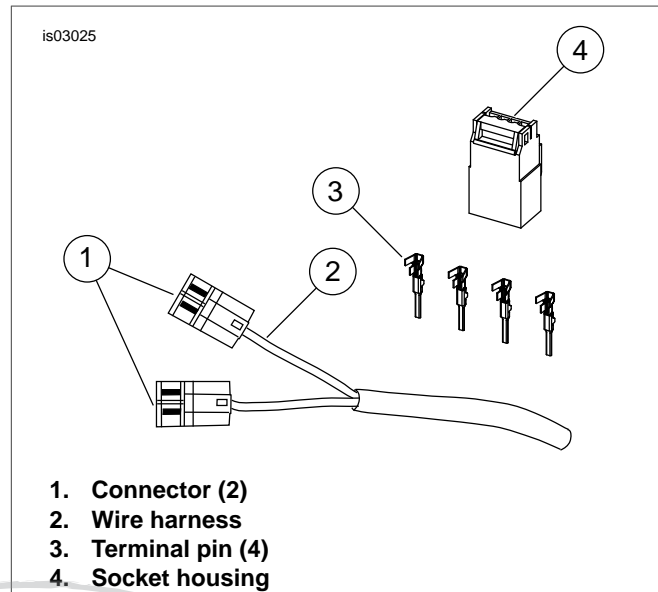
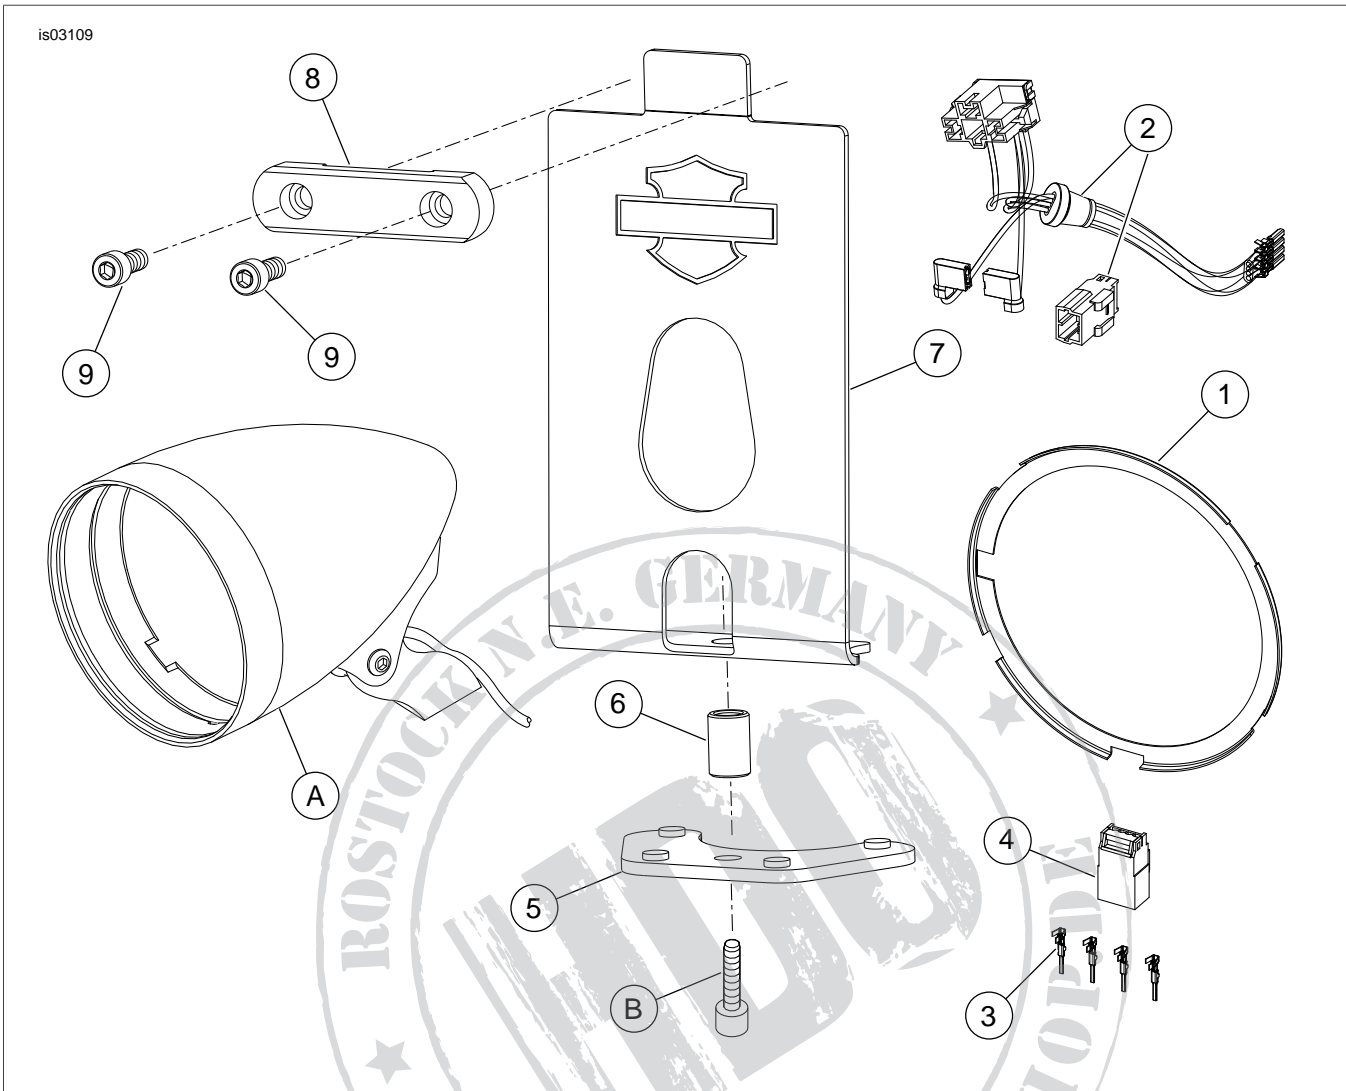

Figure 3. 2004-Earlier VRSCA and VRSCB Headlamp Wire Harness
Figure 6. Service Parts: VRSC Bracket for Billet Headlamp Shell
See Figure 6 and Table 1.
Adapter ring from kit (Figure 6, Item 1) will be used to install billet headlamp assembly on Instruction Sheet-J03018.
2. See Figure 3. Cut the two connectors (1) from existing headlamp wire harness (2). Be sure to cut the wires as close to the back of the connector as possible.
3. See Figure 6. Route new wire harness (2) through the hole in bottom of the billet headlamp shell (A).
5. See Figure 3 and Figure 6. Install terminal pin (3) and socket housing (4) onto new wire harness (Figure 6, Item 2). Refer to MULTILOCK ELECTRICAL CONNECTORS in Service Manual for installing socket/pin terminals.
3. See Figure 6. Connect new wire harness (2) to billet headlamp shell (A).
4. Route wire harness (2) through hole in bottom of billet headlamp shell (A) before installing socket housing (4) provided in kit.
1. See Figure 6. Place headlamp base fastener (B) through bottom mounting plate (5) and spacer (6).
2. Position assembled bottom mounting plate and spacer below lower triple clamp (not shown), and thread fastener into billet headlamp base (A).
3. Install headlamp mounting plate (7) and triple clamp filler (8). Triple clamp filler must be installed with chamfered edge up.
4. Secure triple clamp filler with chrome socket head cap screws (9). Tighten screws to 4.5-7.5 Nm (40-66 in-lbs).